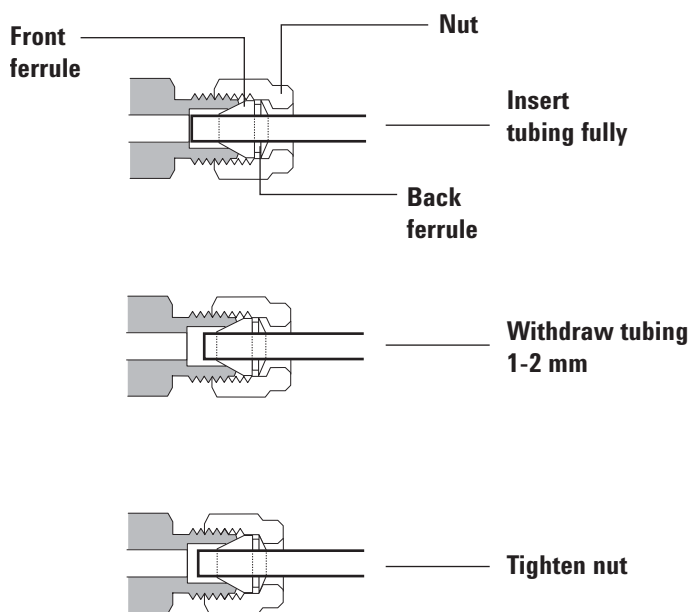

Figure 22. Insert the tubing
- 3 Push the tube fully into the fitting, then withdraw it approximately 1 to 2 mm (see **Figure 22**).